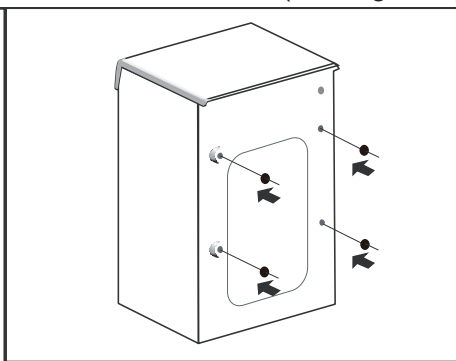

Figure 2
3. Use the supplied plastic plugs to cover the four holes. (see Figure 2).